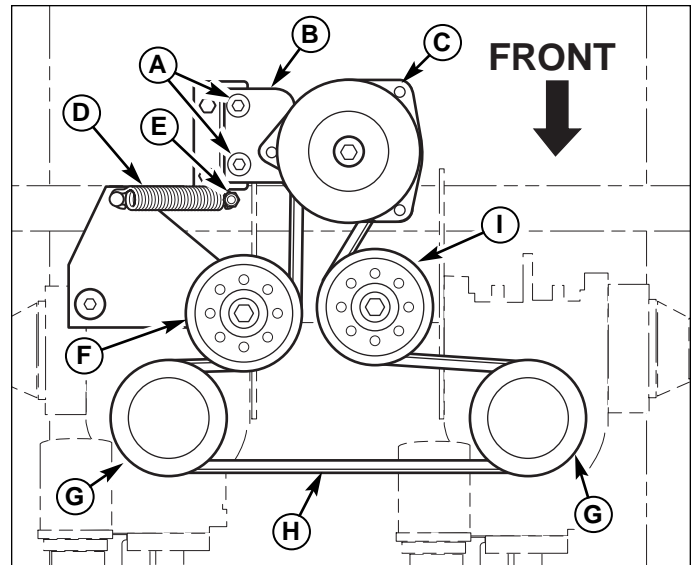

Figure 28. Transmission Drive Belt
3. Remove the clutch anchor bolts (A, Figure 28) that fasten the clutch anchor pad to the anchor.
5. Remove the spring anchor nut (E) and remove the belt tension spring (D).